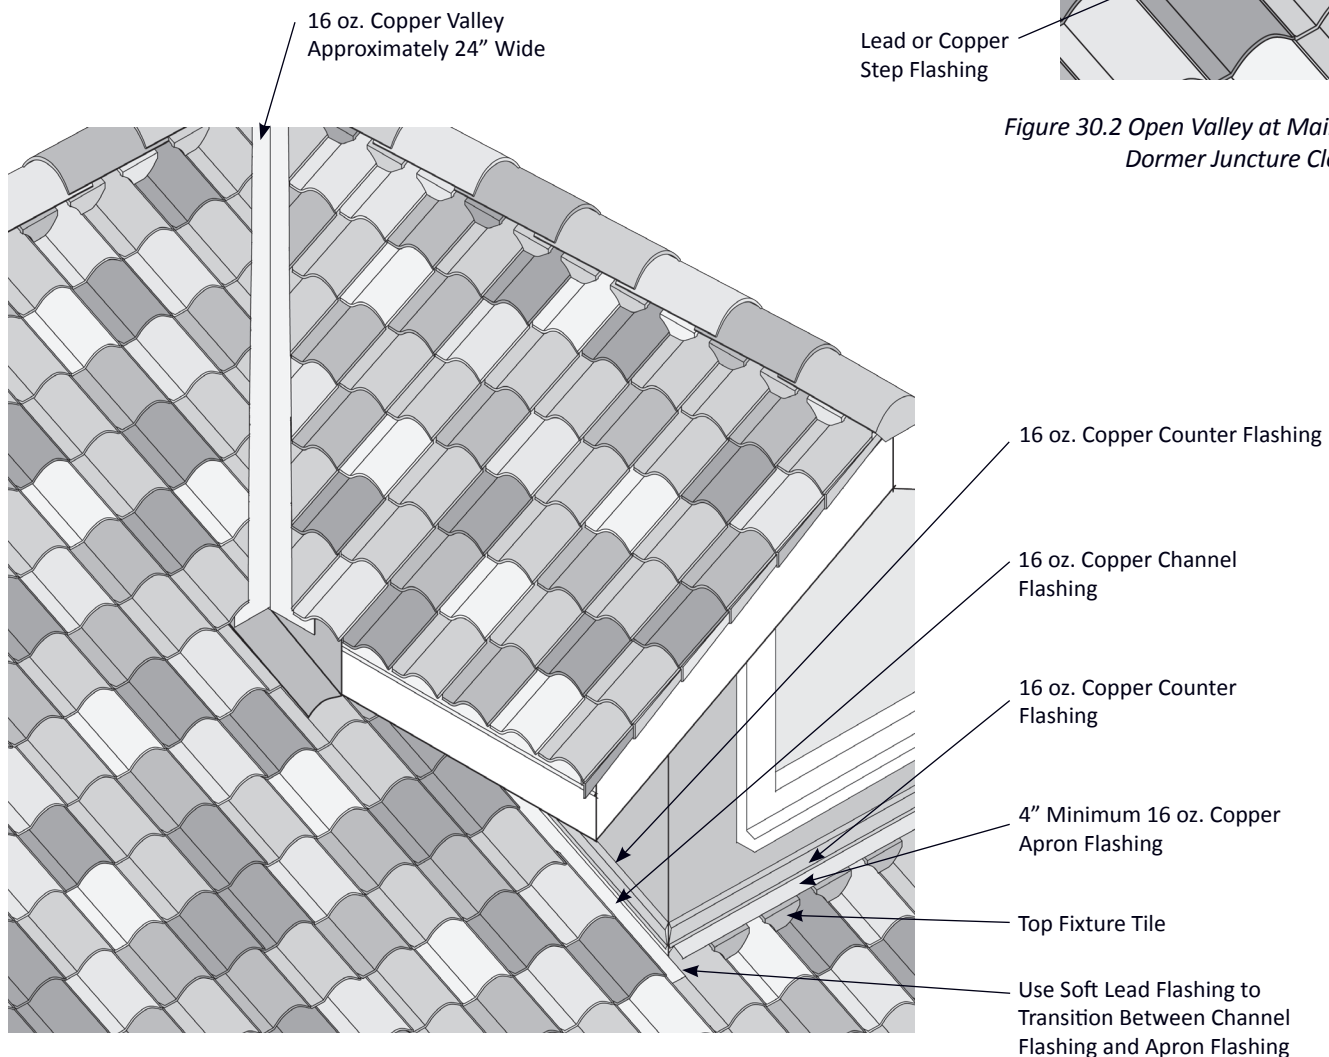

Figure 30.1 Open Valley at Main Roof to Dormer Juncture
1. The main roof tiles should be installed to just above the lower end of the valley, where the valley and the main roof intersect. Along the roof and wall juncture, channel flashing must be used and the last tile in the course should fit closely against the wall of the dormer. (see Figure 30.1).